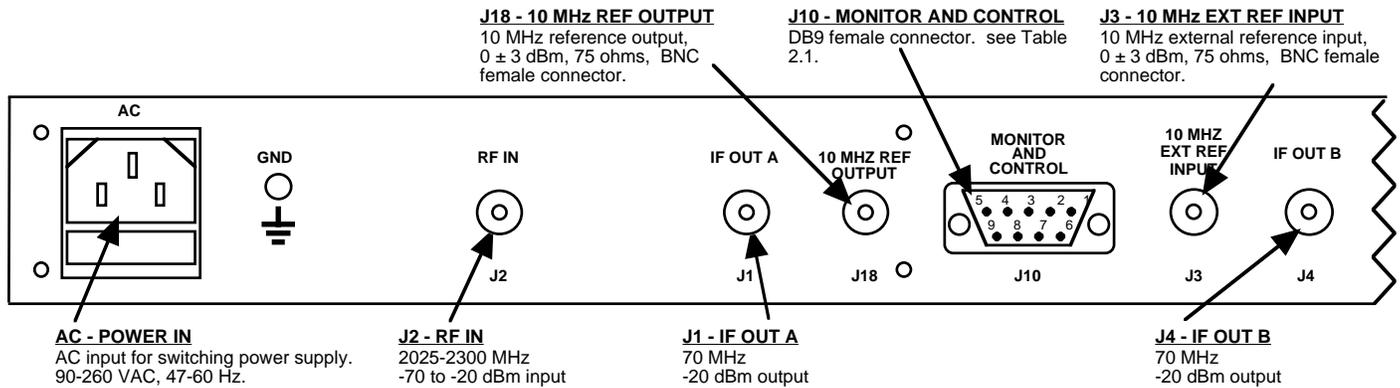

FIGURE 2.2 2016-123 Rear Panel Inputs and Outputs
2.2 Rear Panel Input / Output Signals - Figure 2.2 shows the input and output connectors on the rear panel.
- 1.) Connect a -70 dBm to -20 dBm, 2025-2300 MHz signal to RF IN, J4 (Figure 2.2)
Alarm indications appear on the LEDs (see figure 2.2).